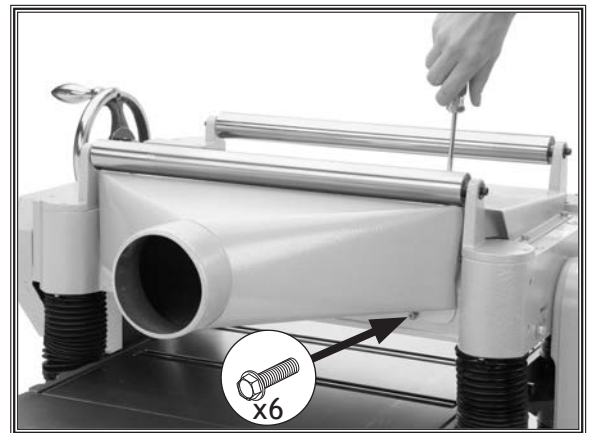

Figure 13. Dust port installed.
8. Attach dust hood to planer with (6) M6-1 x 12 flange bolts (see **Figure 13**).